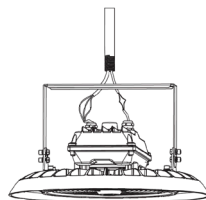

Fig. 9
2. Insert 1/2" NPT stem into the bracket hole of the fixture (with Yoke Mount attached). (Fig. 9)